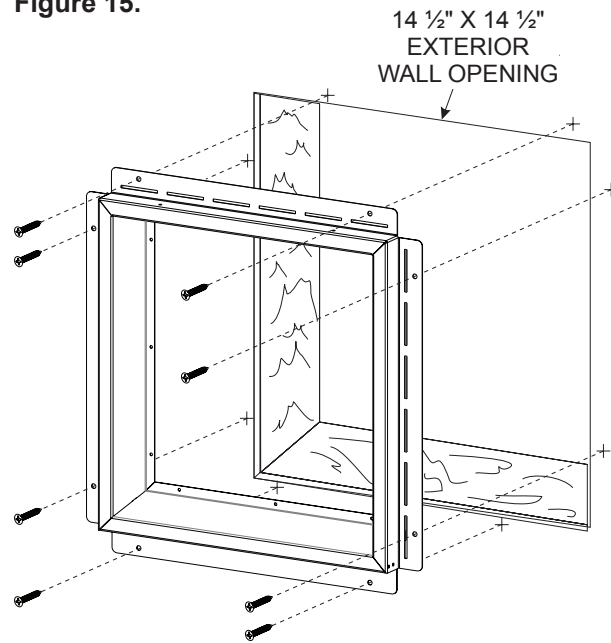

Figure 15
19. Install the Outer Termination into the 14 1/2" X 14 1/2" framed opening through the exterior wall of the building, then secure with 1" long drywall screws as shown in **Figure 15.**